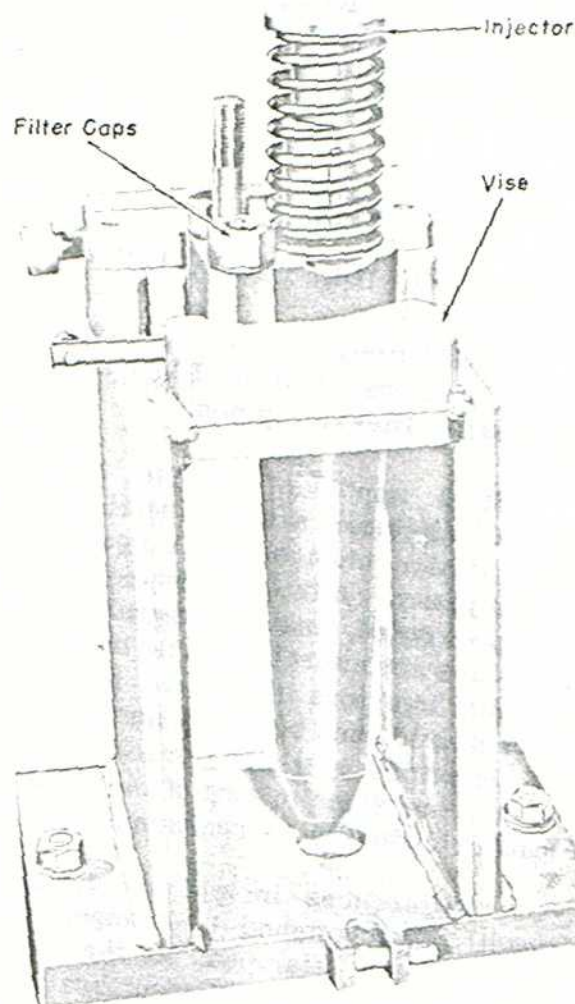

Fig. 4 - Preparation For Injector Disassembly
1. Clamp injector in vise #8201448, in upright position, Fig. 4, and remove the shipping block.